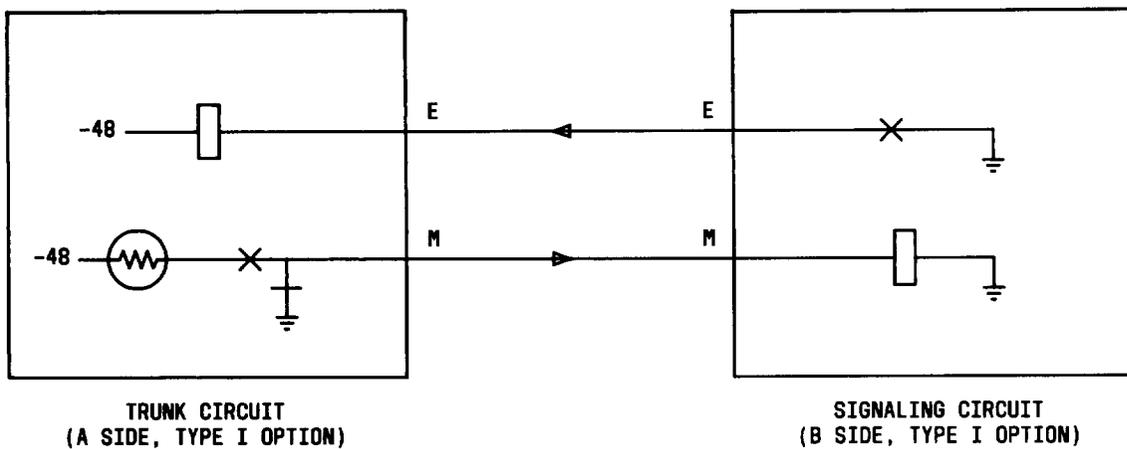

Fig. 5—Type I E and M Interface
3.10 E and M Signaling Circuits: The J99343SG CFU can interface with Type I, II, or III E and M signaling as shown in Fig. 5, 6, and 7 (see notes). One switch labeled E&M 1, one labeled E&M 2, and one labeled INTF (A/B) located on the printed wiring board control the signaling functions. The setting of these switches arranges the signaling